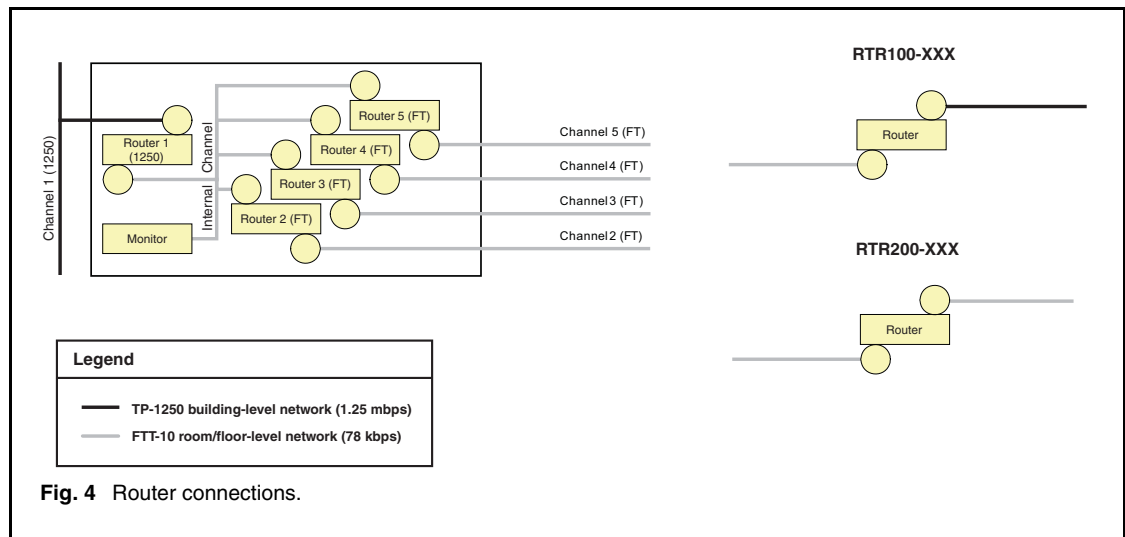

Fig. 4 Router connections.
- Boost the communications speed from 78 kbps on the room-level FTT-10 network to 1.25 mbps for the TP-1250 building-level network (see Figure 4)
Routers used with the Phoenix Controls MicroServer are used strictly to isolate communications traffic. The RTR200 uses 78 kbps FTT-10 on the room-level and floor-level networks (see Figure 4).